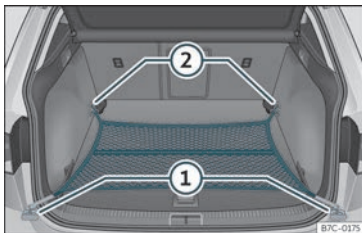

Fig. 111 In the luggage compartment: net bag hooked up at floor level.
- Secure the net hooks to the fastening rings ① and ② >>> Fig. 111 >>> ⚠. The bag zip should be facing upwards.